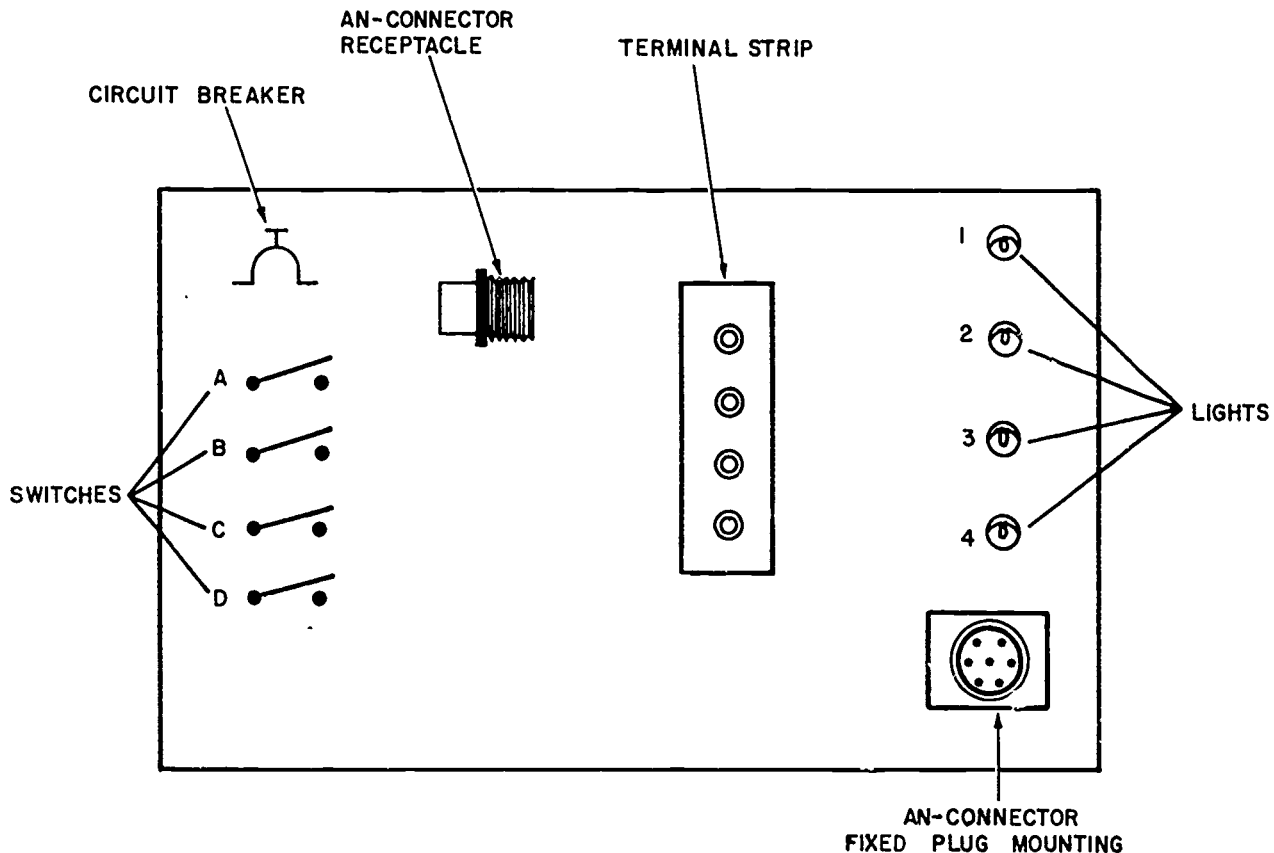
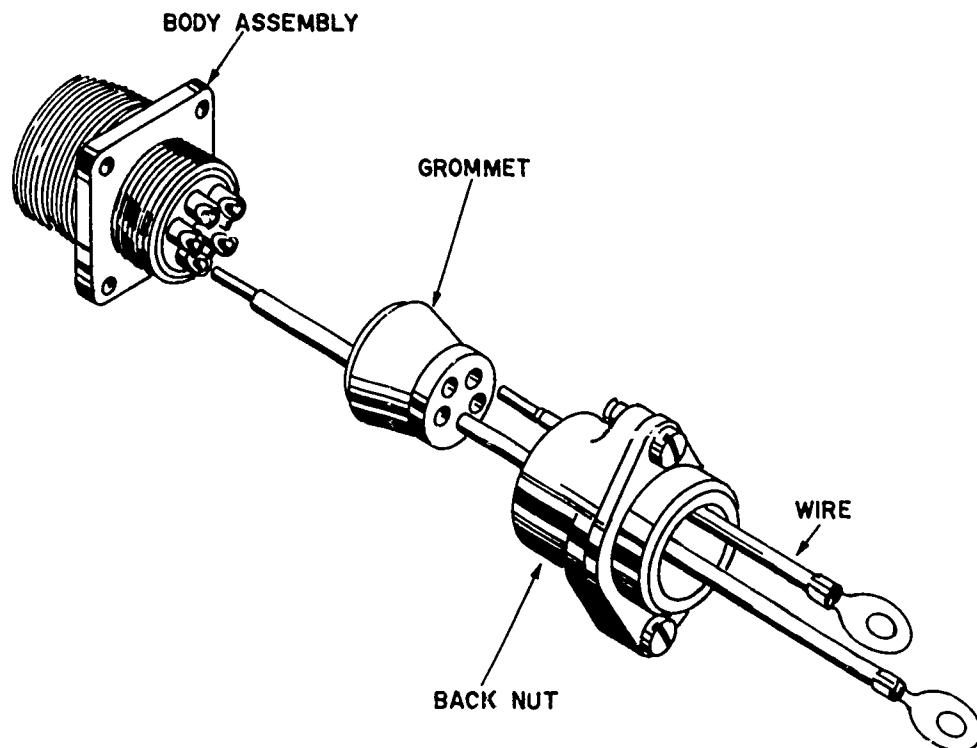

Figure 8. Wire Maintenance Trainer.
Figure 9.
- a. Tell the instructor that you are ready to use the wire maintenance trainer, see figure 8.
- e. Refer to figure 9 and remove the grommet and back nut from the plug of the AN/connector.
j. Refer to figure 9 above. Slide the back nut about half way up the wires putting the tinned ends through first. Now push the tinned ends of the wires through the grommet so that the wires will line up with the pins. Push the grommet up the wires to the point where the one wire is spliced.
n. Solder one wire to pin _____ and the other to pin _____ of the AN-connector. After the wires have been soldered to the AN-connector, reassemble the plug, see figure 9. Push the grommet down the wires to the body assembly. Push the back nut over the grommet and screw it onto the body assembly. Now remove it from the fixed plug mounting and connect it to the receptacle, see figure 8.
u. Take the AN-connector off the AN-receptacle and put it on the fixed mounting, see figure 8. Disassemble the AN-connector and unsolder the wires. Remove the wires from the back nut and grommet and reassemble the AN-connector.